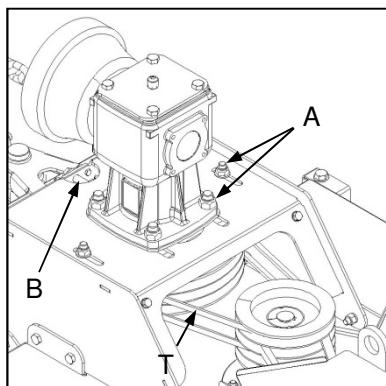

Fig. 6
- ✓ Loosen the primary belt adjuster locking nuts and gearbox mounting bolts (Fig. 6-A).
- ✓ Adjust the front belt adjuster lead screw (Fig. 6-B) until the appropriate belt tension is achieved.
- ✓ Draai die primêre band se verstelsluitmoere en die ratkasmonteerboute los (Fig. 6-A).
- ✓ Verstel die verstelleiskroef van die voorste band (Fig. 6-B) totdat die gepaste bandspanning bereik word.